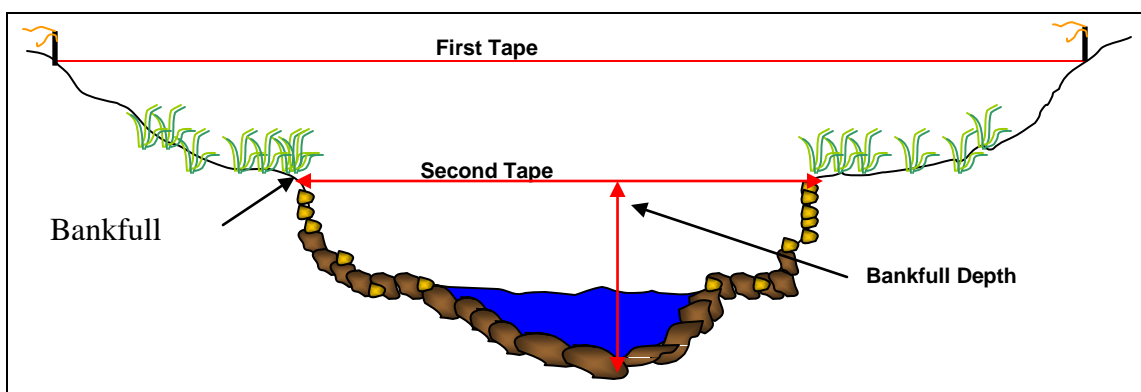

Figure 7 – Locating bankfull width and bankfull depth
- Directly under the first tape you secured, stretch a second tape from the bankfull line on one bank, across the channel to the bankfull line on the other bank (Figure 7). This is your **Bankfull Width** — record it on the data sheet.
- To find the thalweg, use the stadia rod to locate the deepest point in the channel. Once this is established, measure the distance from the channel bottom up to the tape that represents a bankfull flow (Figure 7). This is your **Bankfull Depth** — record it on the data sheet.